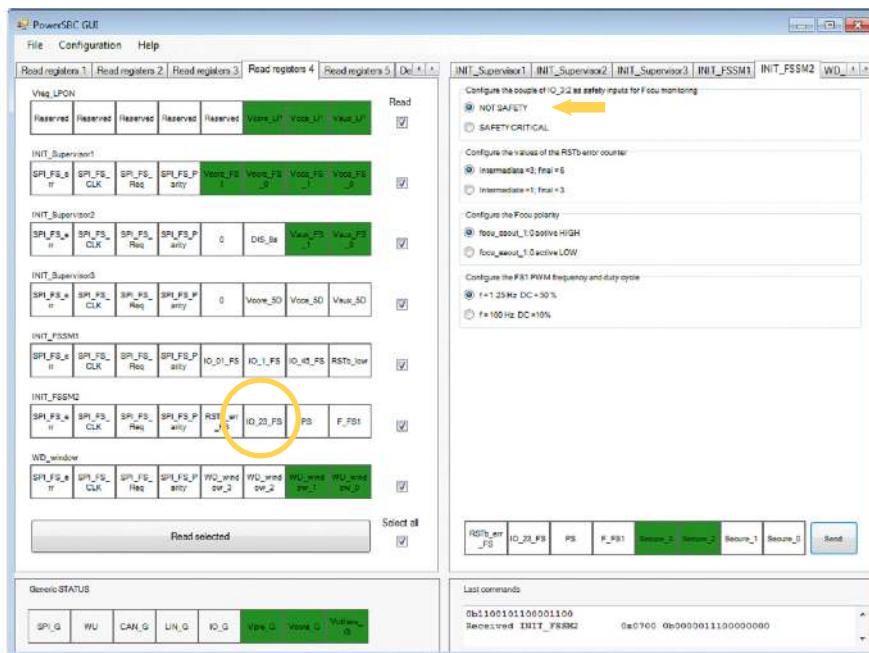

Figure 15. MC3390X\_GUI Register
4. In the right side of the GUI, select NOT SAFETY and send the command as shown in Figure 15.